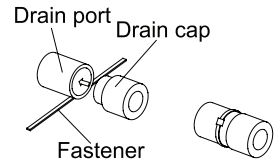

Fig.27
- (7). When the unit is shipped from the factory, the drain port is defaulted to be the one on the left side (electric box side), the port on right side has been plugged.
- (8). When using the drain port on the right side of the unit, reinstall the drain cap to the left side drain port.(Fig.27)